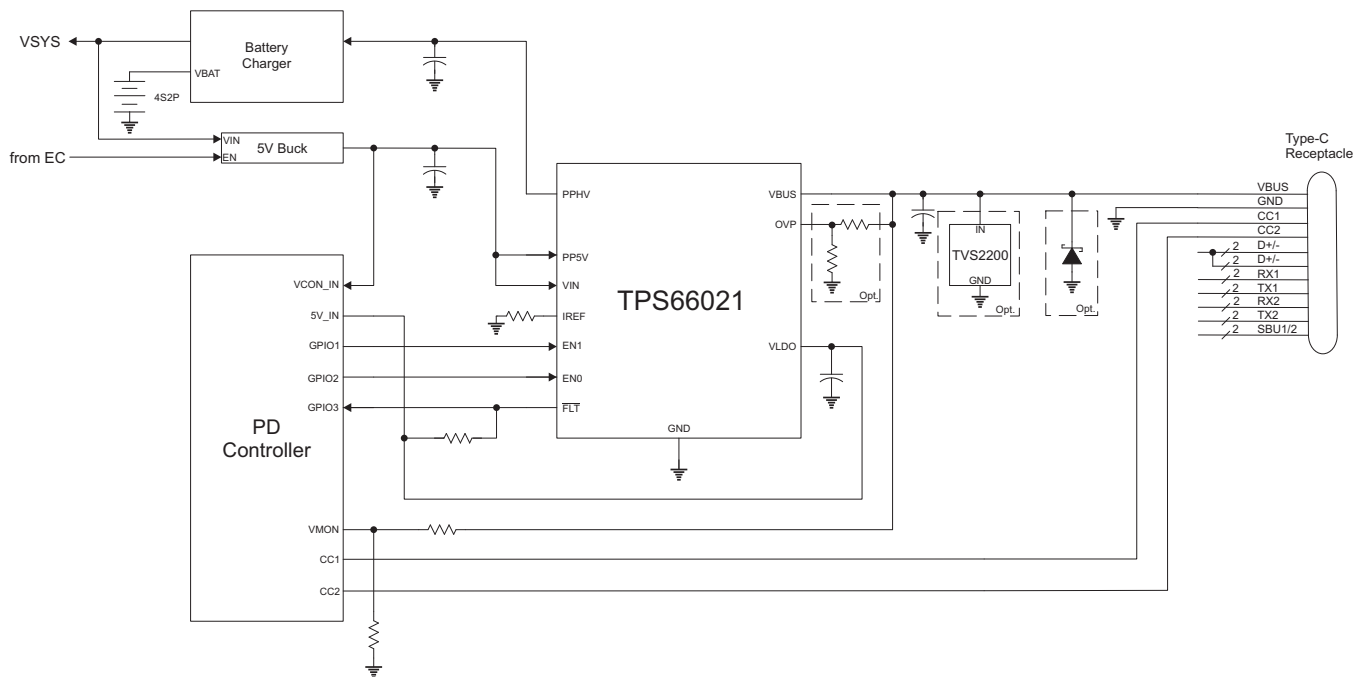
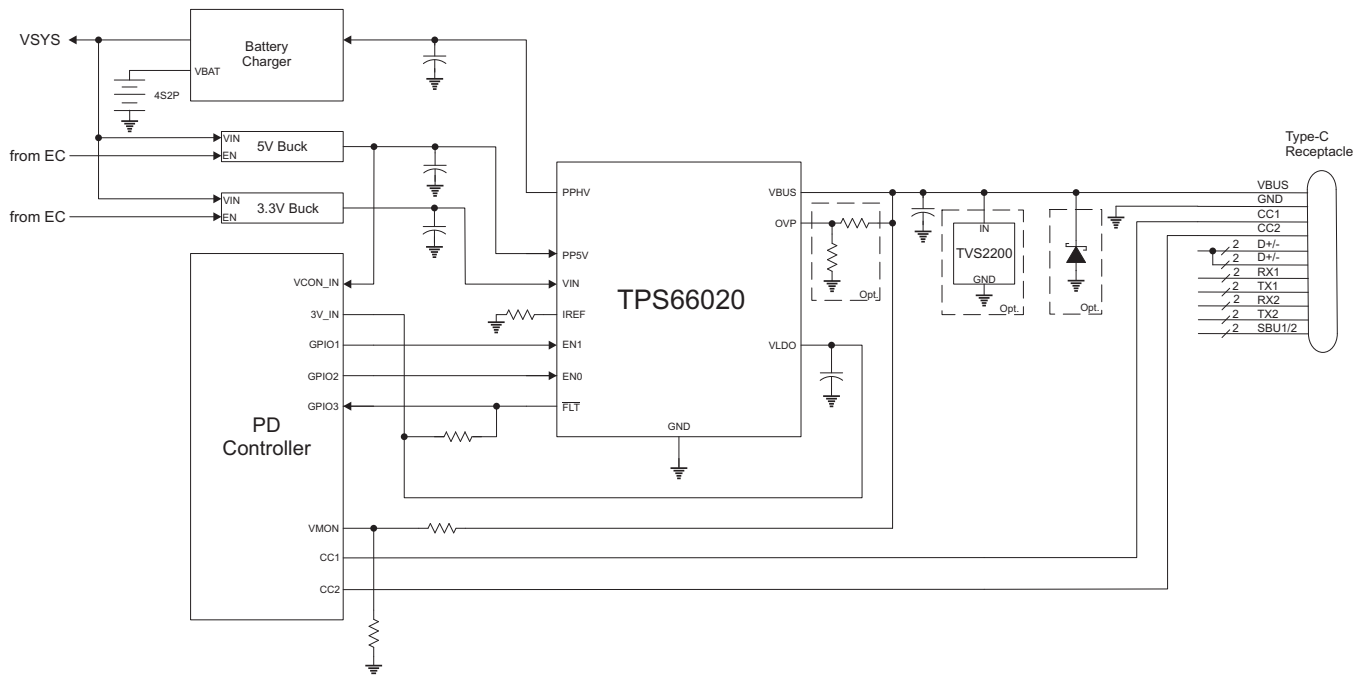

Figure 28. Single Port Type-C PD Port Using a Single 5-V Supply
图 29. Single Port Type-C PD Port Using a 3.3-V Supply
Figure 28 shows a USB Type-C single port design using a Power Delivery (PD) controller that supports 5-V operation. For this system, a single 5-V supply is used to supply power to the PP5V and VIN supplies of the TPS66021, as well as, the connector power, VCONN. The TPS66021 supplies power to the 5-V supply of the PD controller via its VLDO output which is sourced either from the integrated 5-V VBUS LDO for dead battery condition or from VIN once the dead battery condition ends.
Similarly, Figure 29 shows a USB Type-C single port design using a PD controller that only supports 3.3-V operation. In this case, a separate 3.3-V supply in the system is used to supply power to the TPS66020. The TPS66020 supplies power to the 3.3-V supply of the PD controller via its VLDO output which is sourced either from the integrated 3.3-V VBUS LDO for dead battery condition or from VIN once the dead battery condition ends.
The PPHV power path is a Sink. The capacitance on the PPHV shown in Figure 29 represents capacitance of the charger sub-system. In a typical application, this capacitance can be in the range of 47 μF up to 100 μF , far exceeding the 1- μF minimum specification for the TPS6602x, so no external capacitance is required to meet this requirement in most cases. As per the PD Specification, the total capacitance on VBUS should be maximum 10 μF at connection.
The TPS6602x integrates a high-voltage VBUS LDO that can be used to supply power to a PD Controller and other supporting circuitry when only VBUS power is available, such as in a dead battery condition. As shown in Figure 29, the TPS66020 VLDO output supplies power to the PD Controller's 3V_IN supply. Similarly, Figure 28 shows the TPS66021 VLDO output supplies power to the PD Controller's 5V_IN supply. During a dead battery condition, the PD Controller presents its Type-C RPD pull-downs on the CC1 and CC2 lines. Upon connection to a Type-C/PD Source, 5 V is provided to VBUS from the Source partner which powers the TPS6602x. The VBUS LDO is enabled and provides power to the PD Controller. Once powered, the PD Controller can decide to enable the TPS6602x PPHV Sink path by asserting EN0 high and use the 5-V VBUS to charge the battery or it may choose to negotiate a higher voltage contract first. Either way, once the contract is negotiated, the PD Controller will enable the PPHV Sink path and charge the system. Once the system is sufficiently charged, the VIN terminal will rise and will exceed the VIN UVLO threshold. If VIN remains above the UVLO threshold for t_{VIN_STABLE} , VLDO will be supplied from VIN and the VBUS LDO will be disabled.